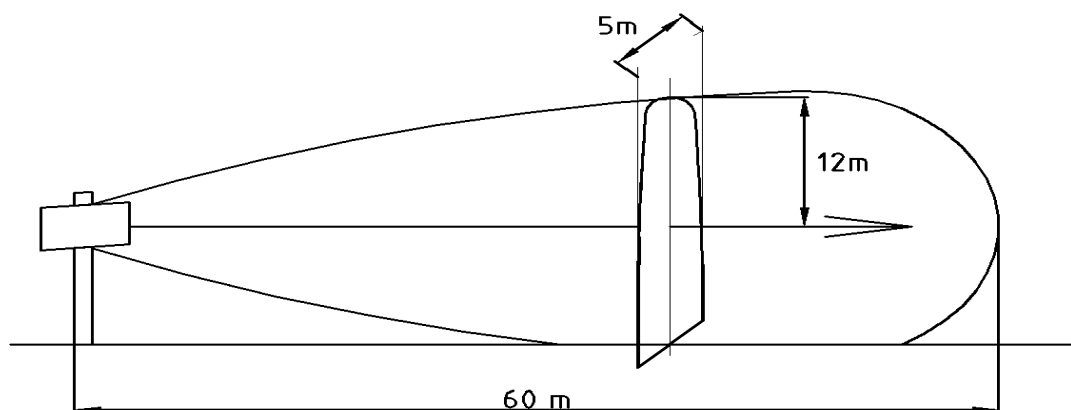

Fig. 8.1 The sensor detection zone (performance variant «curtain») when installed outdoors.
8.3.5. Fix the sensor in the horizontal (relatively to the ground) plane. The detection zone model form and dimensions for the performance variant «curtain» are given in Fig.8.1.